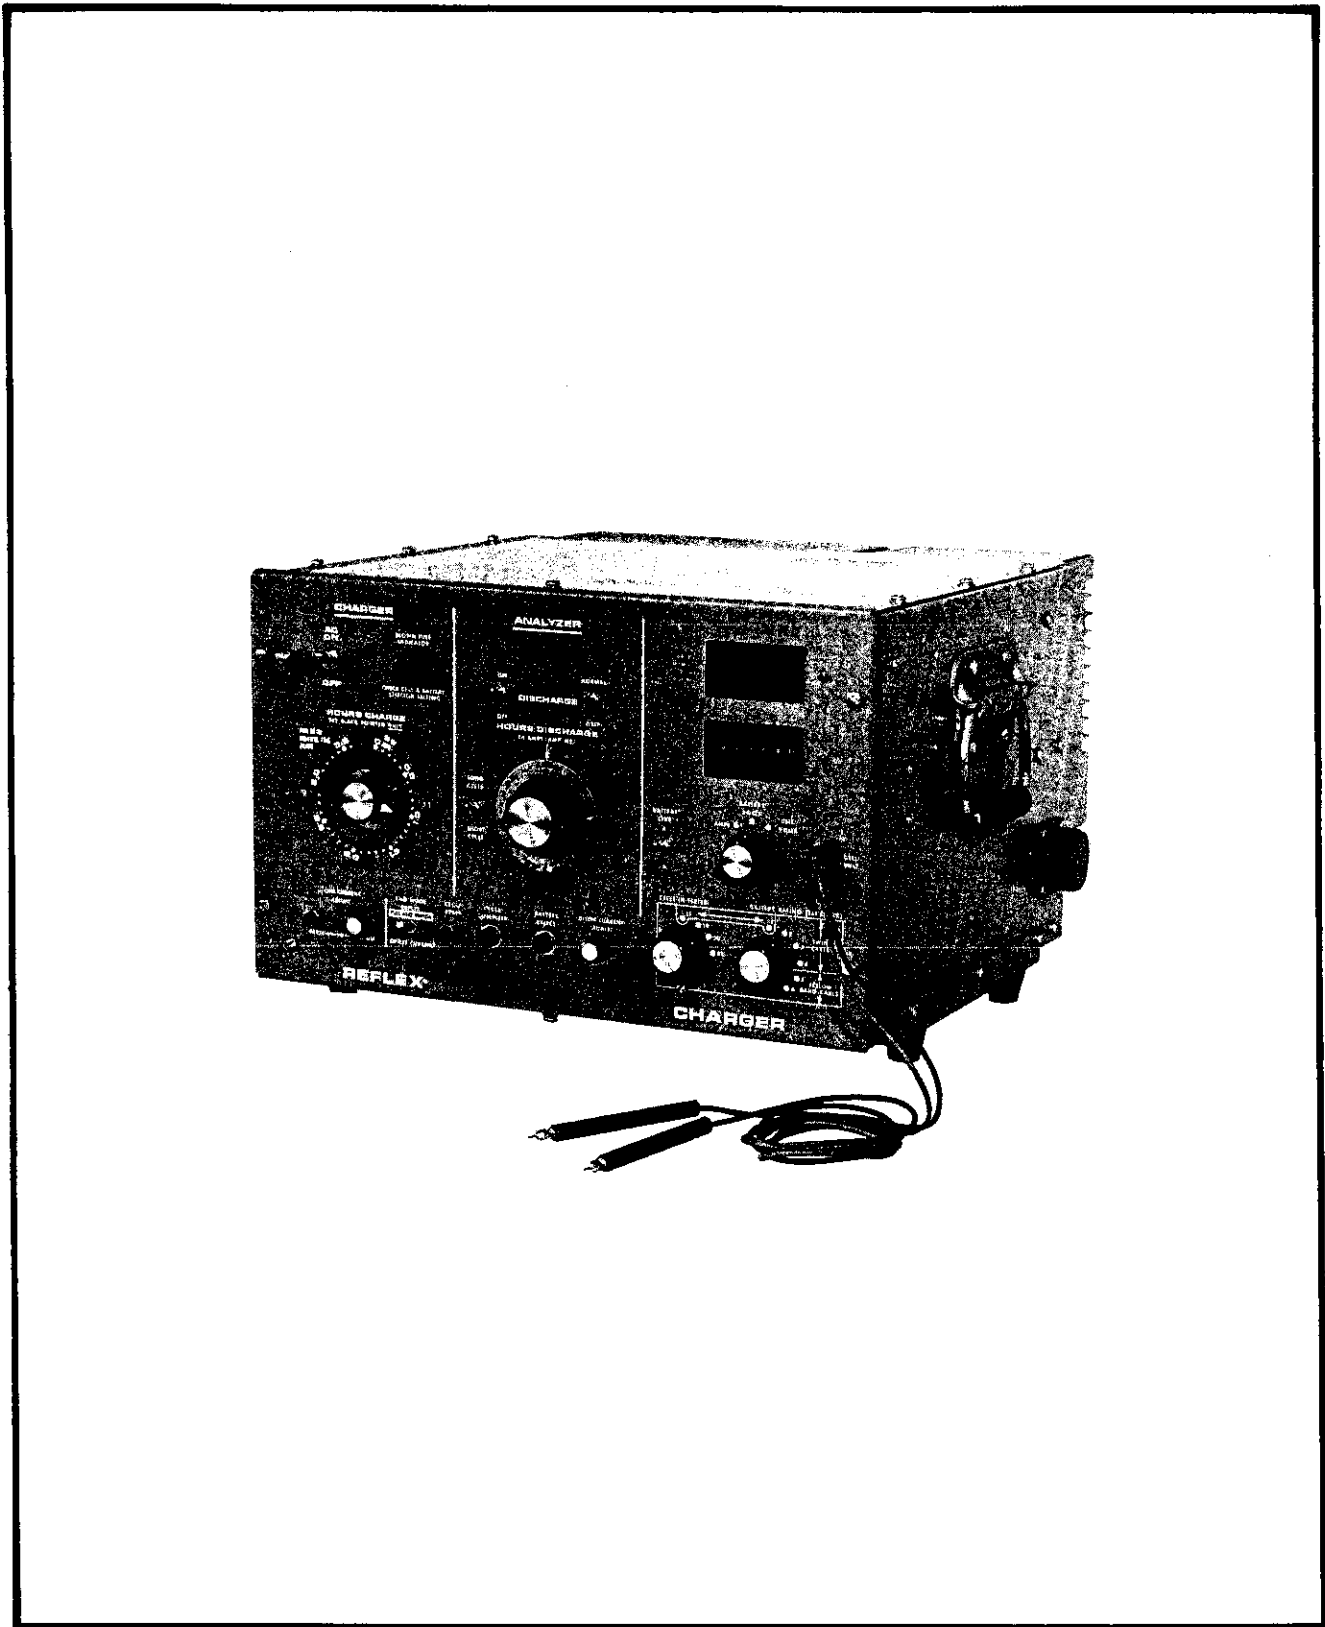

Figure 1-1. The Model RF80H ReFLEX Charger/Analyzer
- 1-2. The Model RF80H Automatic ReFLEX Charger/Analyzer is the most efficient and sophisticated instrument available for rapid, automatic charging and analyzing of nickel-cadmium (ni-cad) batteries. Designed for 11, 19, 20 and 22-cell, sintered vented-type ni-cads, the charger/analyzer uses the patented ReFLEX charging principle to give rated or better-than-rated battery capacity in 1 hour. The charger/analyzer is shown in Figure 1-1.